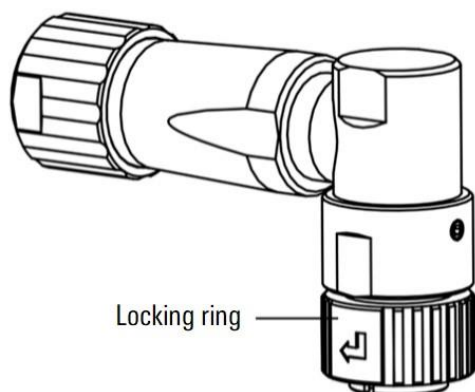

Figure 1-4 Step 3 diagram
Step3. Rotate the locking ring according to the direction of rotation indicated on the locking ring, refer to Figure 1-4.